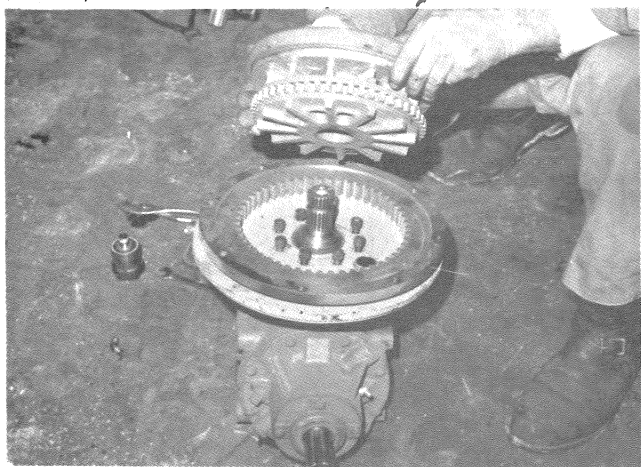

Figure 7. Clutch Group, removed
- (8) Lift the clutch group from the cover plate (Fig. 7).